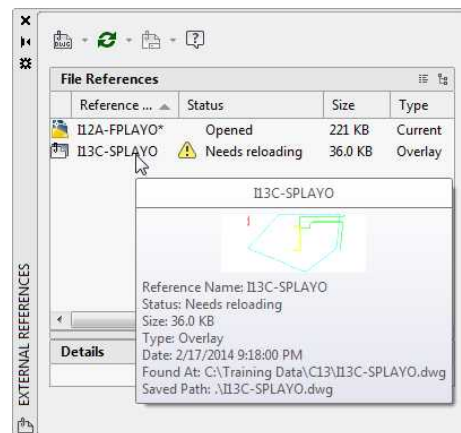

FIGURE 13.21: The External References palette showing the status of the Xrefs
2. Open the External References palette, as shown in Figure 13.21, and stretch it to make it wider.